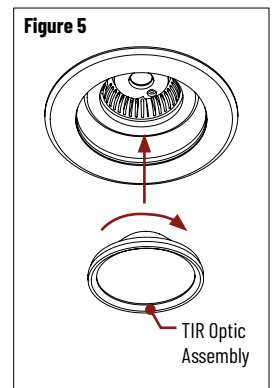

Figure 5
5. Replace complete TIR optic assembly and turn clockwise to tighten. (Figure 5)